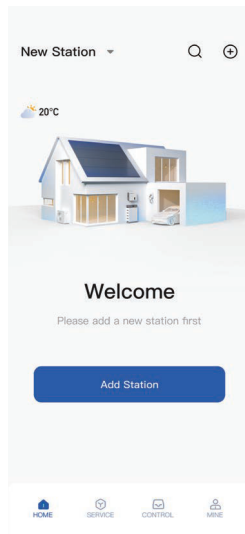

Fig. 5
- Tap "**Add station**" on the page, as shown in Fig. 5.